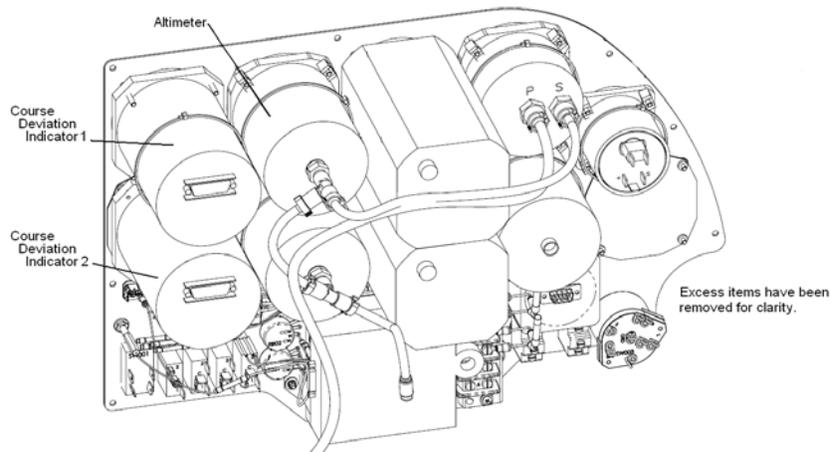

Figure 34-7 Rear View of the instrument Panel Showing Location of the Altimeter
6. Disconnect static line (green). See Figure 34-7 for location of the Altimeter and the green static line.